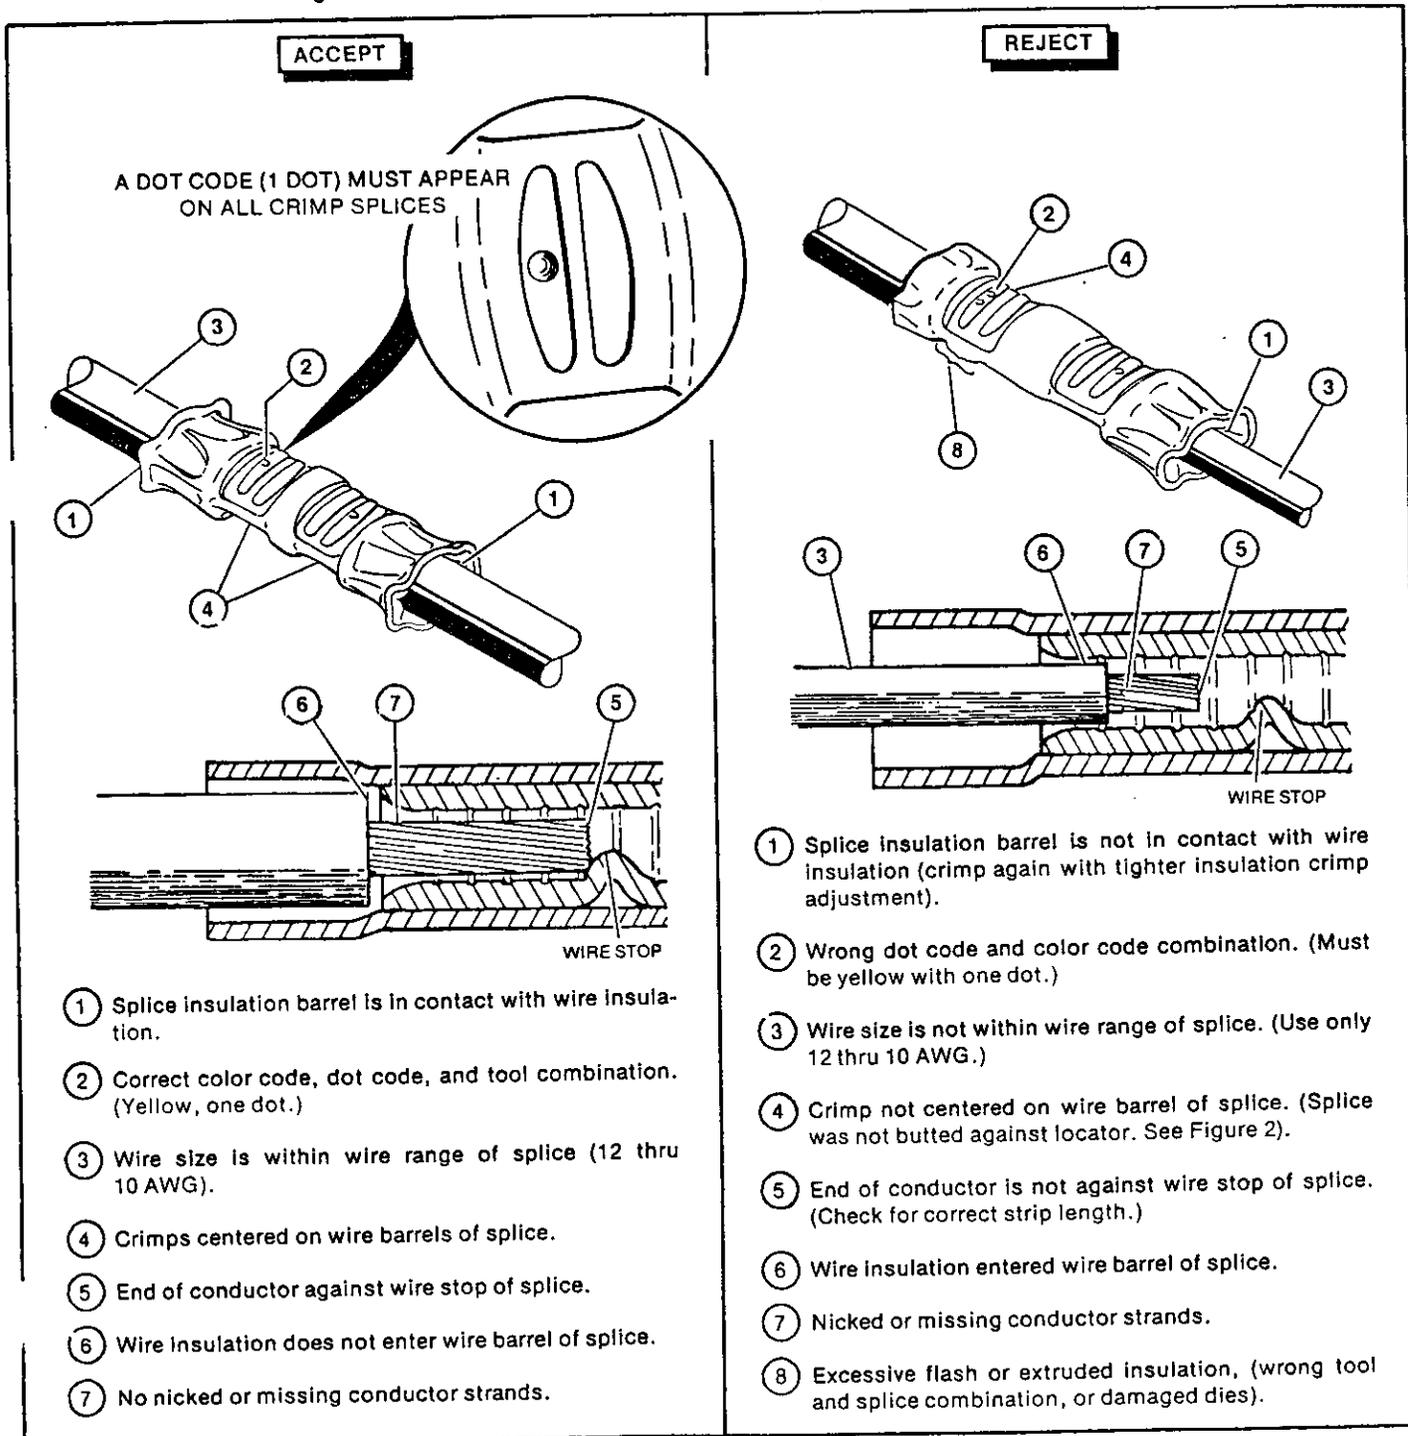

Figure 4
- Refer to paragraph 3 and Figure 4 for splice crimp inspection procedure.
Inspect crimped splices by checking the features described in Figure 4.